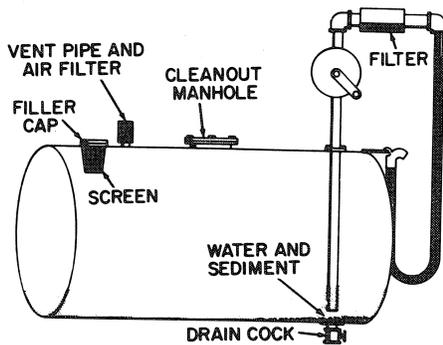

Figure 19. Recommended Fuel Storage Tank
1. A rust-proof storage tank similar to the one illustrated in Figure 19 provides a good permanent storage tank. Main storage tanks of this type should be provided with a shelter so fuel can be kept as cool as possible.